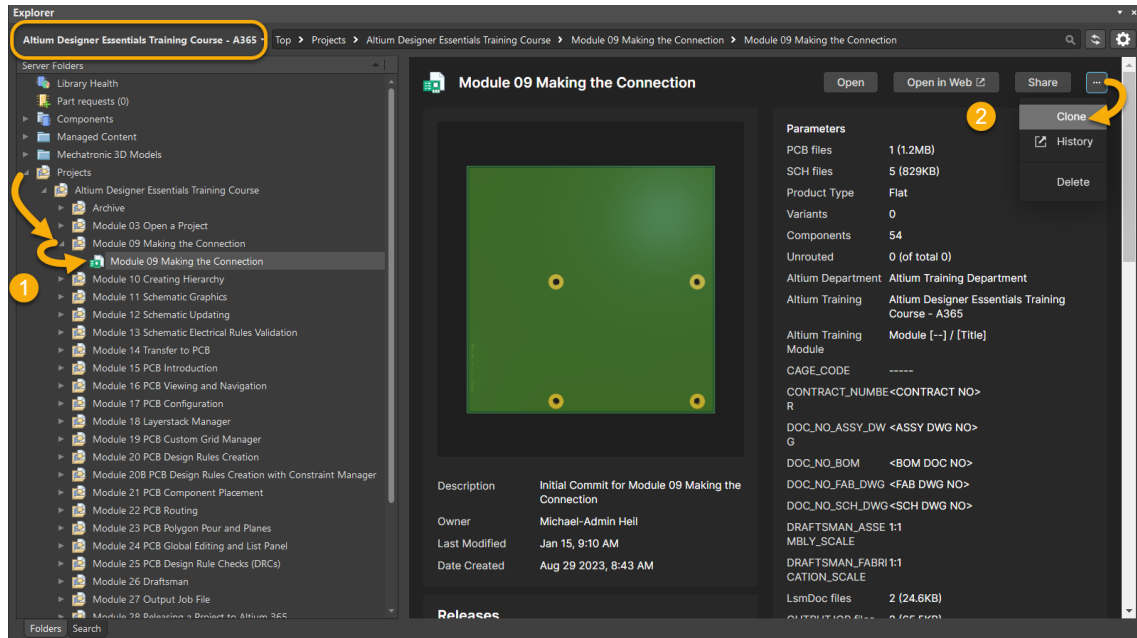

Figure 3. Copy Training Project
10. Select the Ellipsis Button **...** and the command **Clone** as seen at Figure 3.